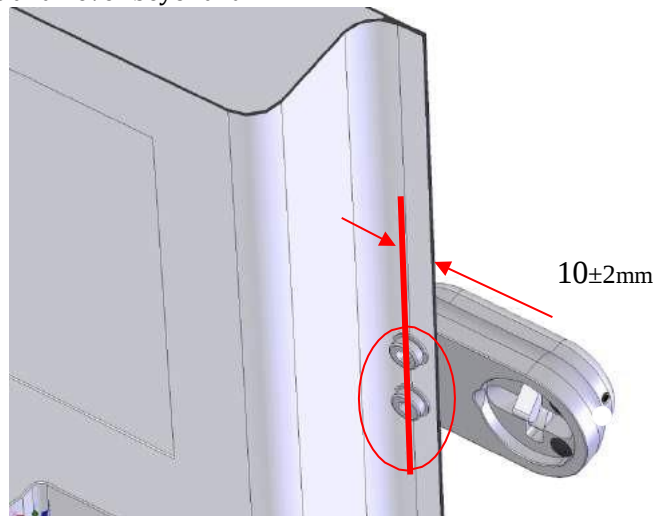

Fig.5
- The position of the first two 9 mm holes is about 10 ± 2 mm from the vertical edge of the door that opens (see fig. 5). This is a very strong area of the door. The stated tolerance is necessary to allow the cylindrical heads of the M8 bolts to be placed within the edge and never beyond it.
The armor is normally fixed by drilling holes at the extreme edge of the door for the two M8 button-head bolts. Before drilling, check that the head of the M8 bolt fits within the edge (see fig. 5).